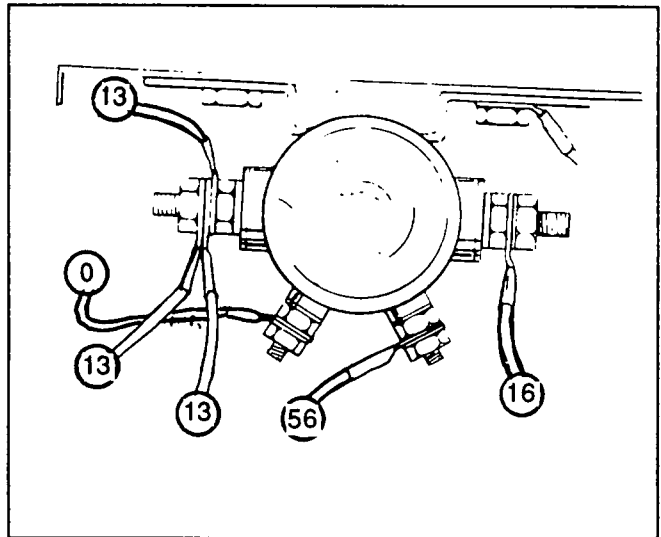

Figure 5. Control Contactor on 12 Volts DC Systems
**12 Volts Engine Electrical Systems:** See Figure 5. Battery voltage is available to one of the large terminal studs via Wire 13. When the DC control/latch-crank board's crank relay (K1) is energized, a DC voltage is delivered to the Wire 56 terminal stud to energize the control contactor. The contactor's normally-open con-